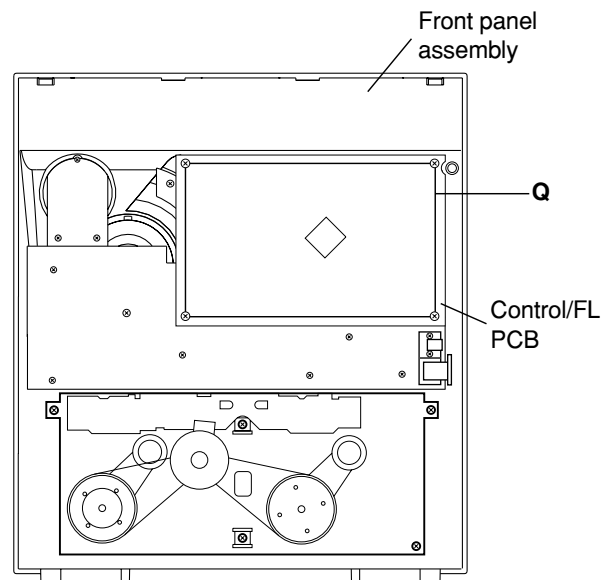

Fig.23
■ Removing the control/FL PCB (See Fig.23)
(See Fig.23 to 26)
2. Remove four screws **Q** retaining the front panel assembly. (Fig.23)